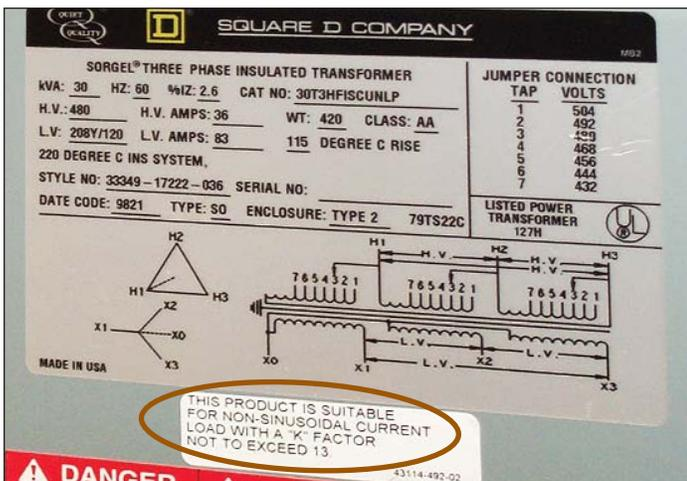

Figure 4. Distribution transformers at Bryant University are K-13 rated to accommodate the electrical system's high harmonic content.
- To begin with, all distribution transformers on campus are K-13 rated (**Figure 4**). K-13 is the factor generally recommended for harmonic distortion levels associated with telecommunications equipment, classrooms and medical equipment. K-rated transformers are built with larger neutrals and additional cooling to withstand the additional heating of harmonics, while the electro-